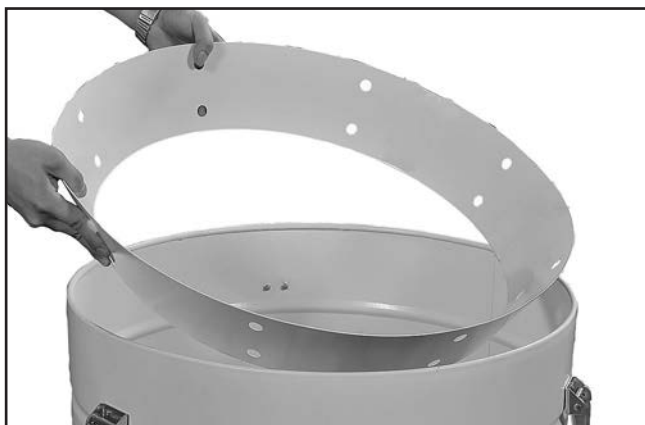

Figure 29. Inserting collection drum vacuum ring.
25. Place the collection drum vacuum ring on the bottom of the collection drum (see **Figure 29**).